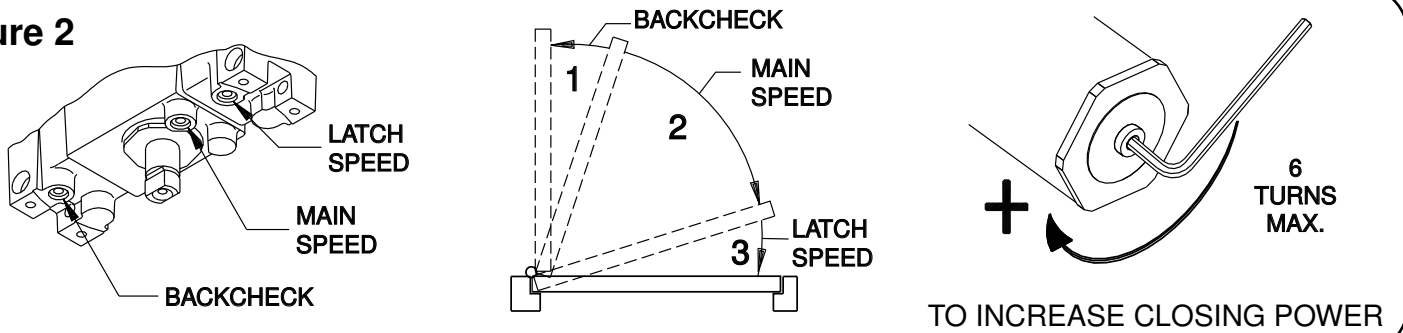

Figure 3
FOR CONCEALED WIRING: See Fig. 3 on page 3.
4. Make wiring connections at this time. Connect two black wires to input voltage (polarity not important). Green wire **MUST** be connected to an earth ground. (See Fig. 3 & 4 on page 3)